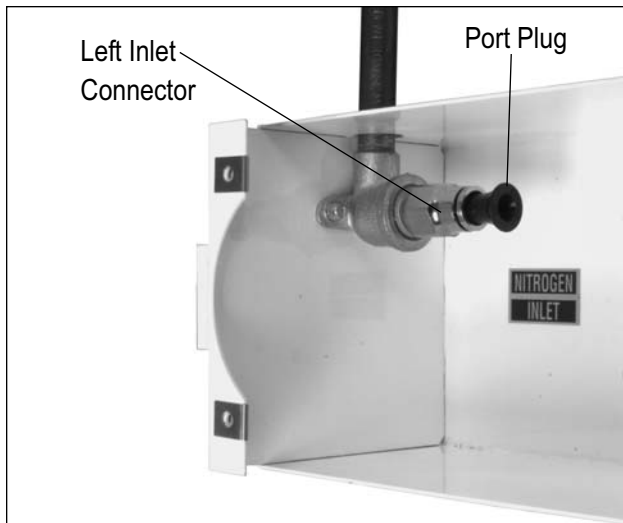

Figure 2
5. If remote outlet is not used, install port plug into left inlet connector (Figure 2). Proceed to step 7.